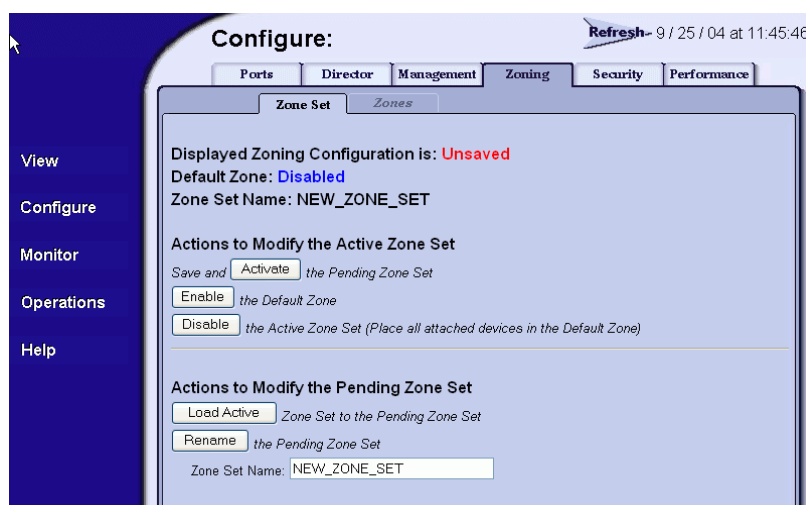

Figure 2-84 Configure Panel (Zoning Page with Zone Set Tab)
1. At the *Configure* panel and *Zoning* page, click the *Zone Set* tab. The *Zoning* page displays with the *Zone Set* tab selected (Figure 2-84).